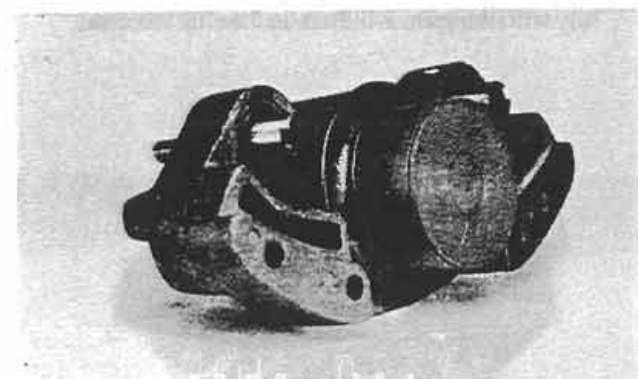

Figure 8:
6. If the piston cannot be grasped and pulled from its bore, use a soft punch and CAREFULLY tap on the retractor pin end of the piston. As the piston is removed, slide the dust boot toward the casting (Fig. 8).